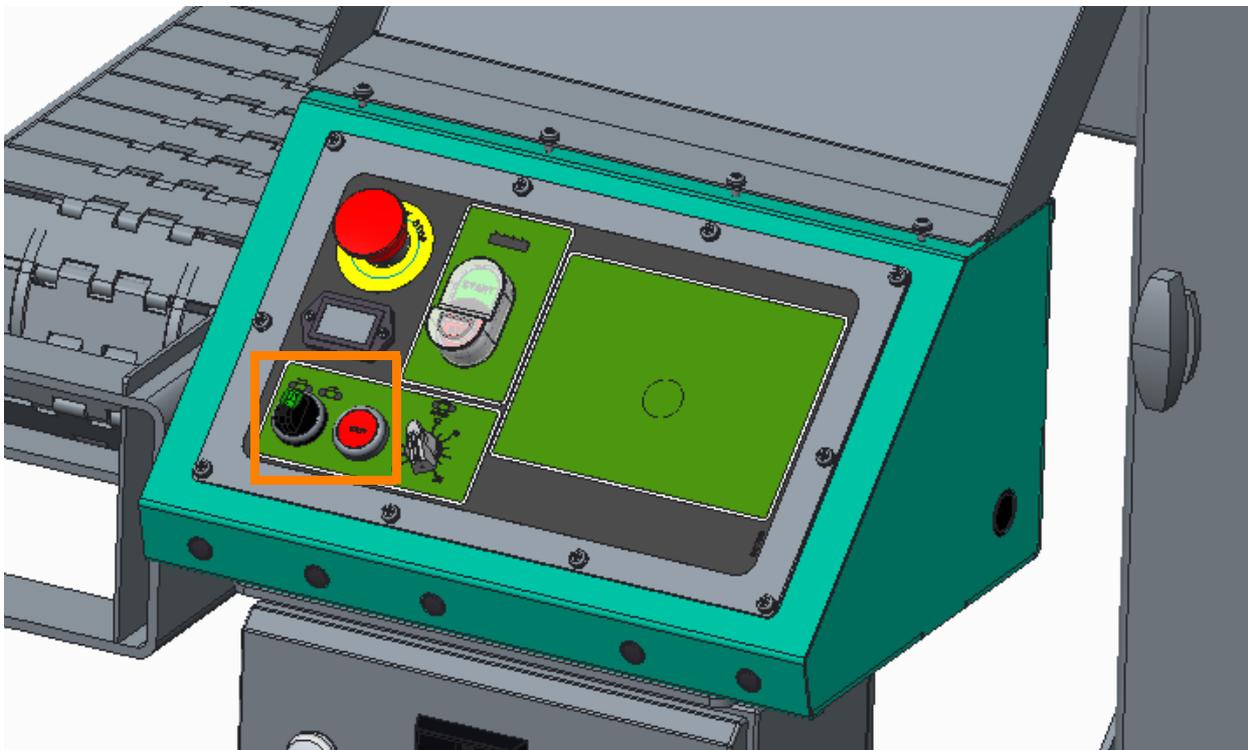

**FIG. 2-20**
**See Figure 2-20.** Start the blade motors. To do this, turn the key switch to the  position and then press the START button on the control panel (see the figure below). The motors should start and the blades should start spinning.